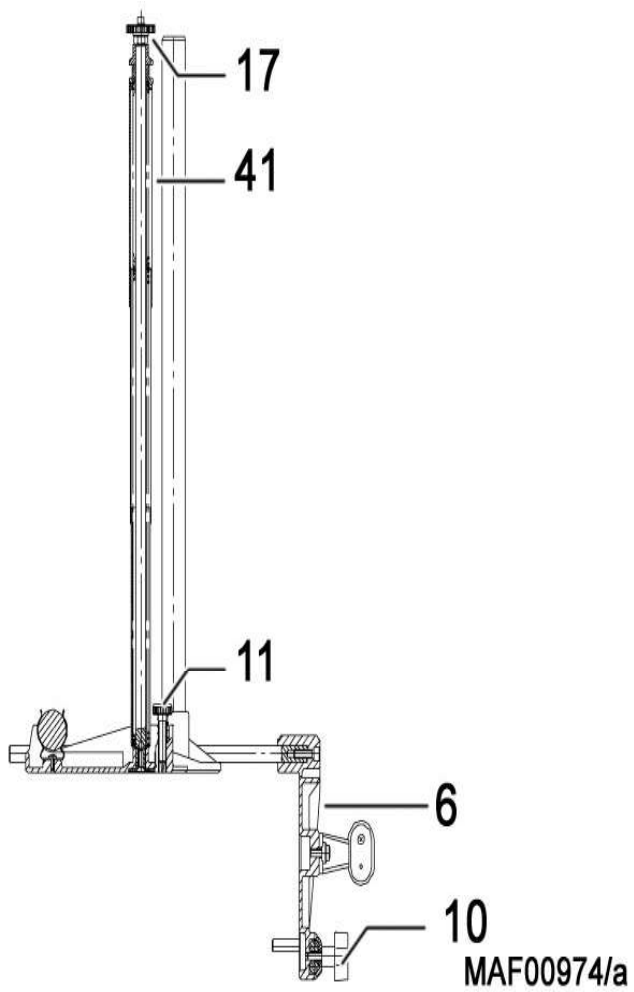
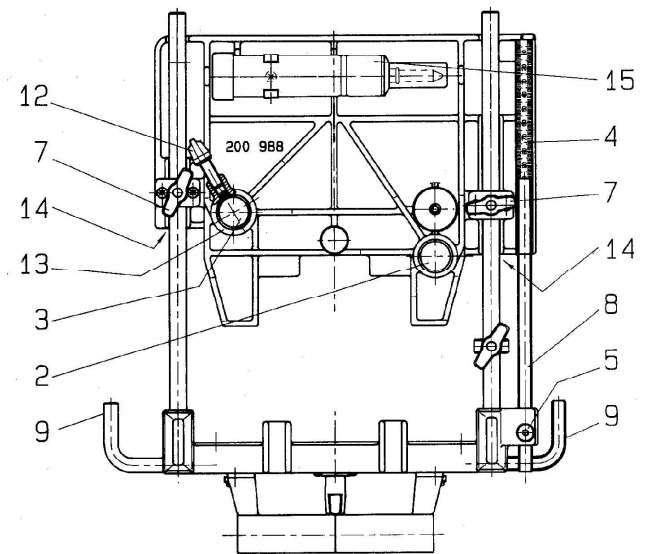
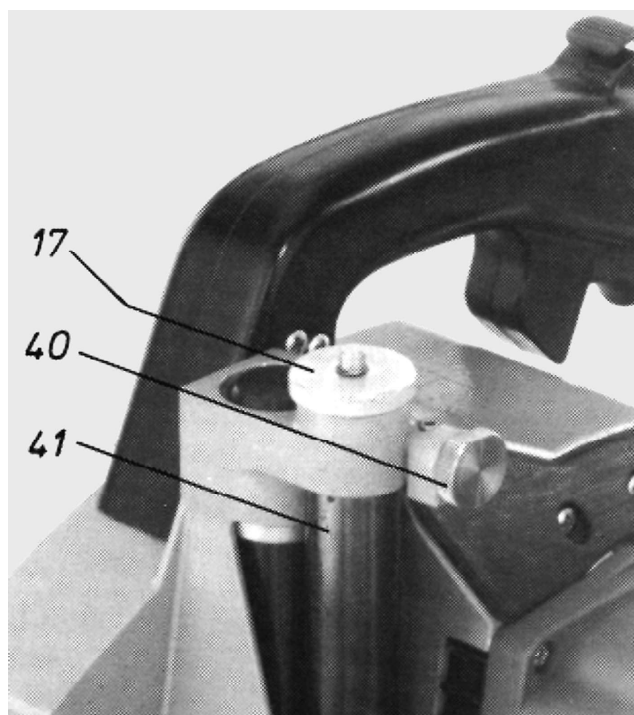

Abb. 1 (Fig. 1 ill. 1 afb. 1)
Abb. 2 (Fig. 2 ill. 2 afb. 2)
Abb. 3 (Fig. 3 ill. 3 afb. 3)
- Remove knurled nut 17 (Fig. 1) from slot mortising device SG 230.
- With chain mortising machine LS 103, locking bolt 40 (Fig. 3) has to be turned clockwise as far as it will go.
- Put the chain mortising machine LS 103 on guide columns 2 and 3 (Fig. 2) and retighten knurled nut 17 (Fig. 3).
- Then attach parallel guide fence 6 (Fig. 1) to the guide fence carrier 14 (Fig. 2) provided for this purpose and tighten wing screws 7.
After changing the mortising chain set scale 4 (Fig. 2) needs to be readjusted since different widths of mortising chain sets (6 – 21 mm / 1/4 – 13/16 in.) can be used.
- To do so, loosen flat head screw 5 and wing screws 7 and move parallel guide fence 6 (Fig. 1) until it touches the mortising chain.
- Indicator bar 8 (Fig. 2) as well, has to be moved to the 0 marking on scale 4 and retightened by means of flat head screw 5.
The distance of the cut to be made parallel to the edge of the timber can be set by adjusting parallel guide fence 6 (Fig. 1).
- To adjust parallel guide fence 6 loosen wing screws 7 (Fig. 2) and set the distance by means of scale 4.
- After adjusting, retighten the wing screws 7. Parallel guide fence 6 (Fig. 1) can also be used as an extended support; simply turn it over.
The distance of a cut at a right angle to the edge of the timber can be determined by adjusting stop bows 9 (Fig. 2).
- Loosen wing screw 10 (Fig. 1) and adjust the distance.
When doing horizontal cuts the weight compensating spring 41 (Fig. 3) may be released to facilitate the cutting operation.
- Loosen wing screw 12 (Fig. 2) and move depth stop ring 13 to the depth required.
When mortising vertically positioning pin 11 (Fig. 1) serves as a safety device to prevent that the slot mortising device is moving sideways. This positioning pin will perform its function once it is completely screwed into the base plate.
The roller bearing of the chain bar should be kept well greased. Grease gun 15 (Fig. 2) is provided for this purpose which should be pressed into the hole at the tip of the bar (**only acid-free ball bearing grease of good quality should be used**)!